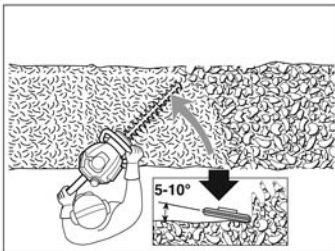

Fig. 14
- > After cutting the sides proceed to the top (Fig. 14)